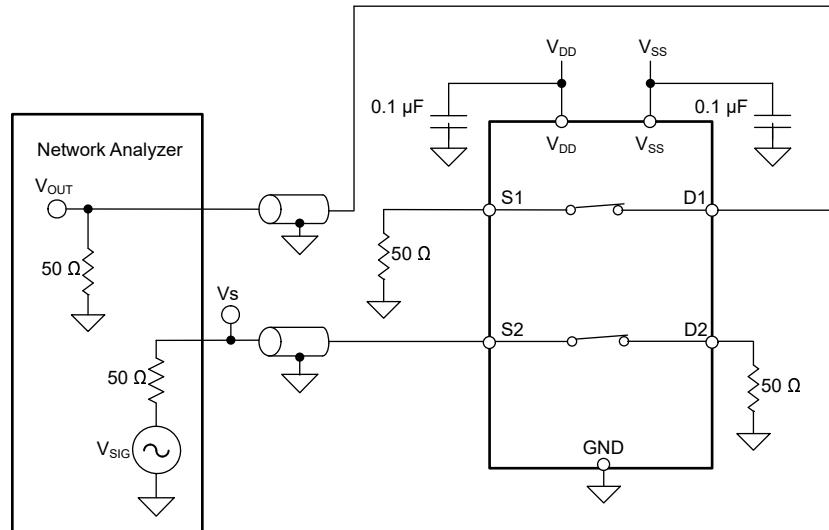

図 7-9. Crosstalk Measurement Setup
Crosstalk is defined as the ratio of the signal at the drain pin (D) of a different channel, when a signal is applied at the source pin (Sx) of an on-channel. 図 7-9 shows the setup used to measure, and 式 3 shows the equation used to calculate crosstalk.